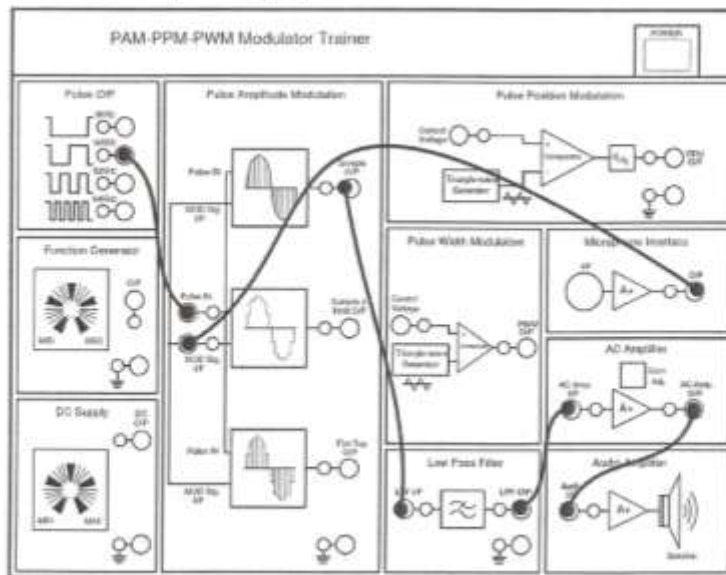

Fig. 23
1. Connect the circuit as shown in Fig 23.